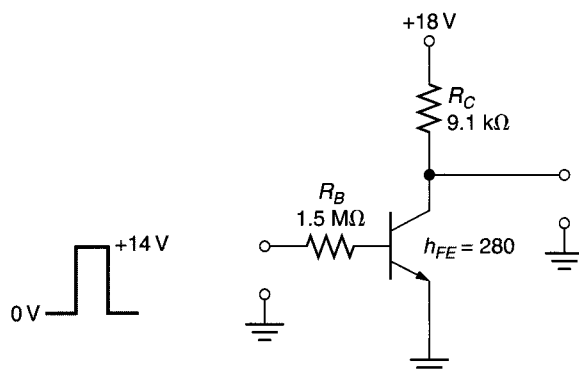

FIGURE 19.46
1. Determine the minimum high voltage required to saturate the transistor in Figure 19.46.
2. A switch like the one in Figure 19.46 has the following values:  $V_{CC} = +12\text{ V}$ ,  $h_{FE} = 150$ ,  $R_C = 1.1\text{ k}\Omega$ , and  $R_B = 47\text{ k}\Omega$ . Determine the minimum high input voltage required to saturate the transistor.